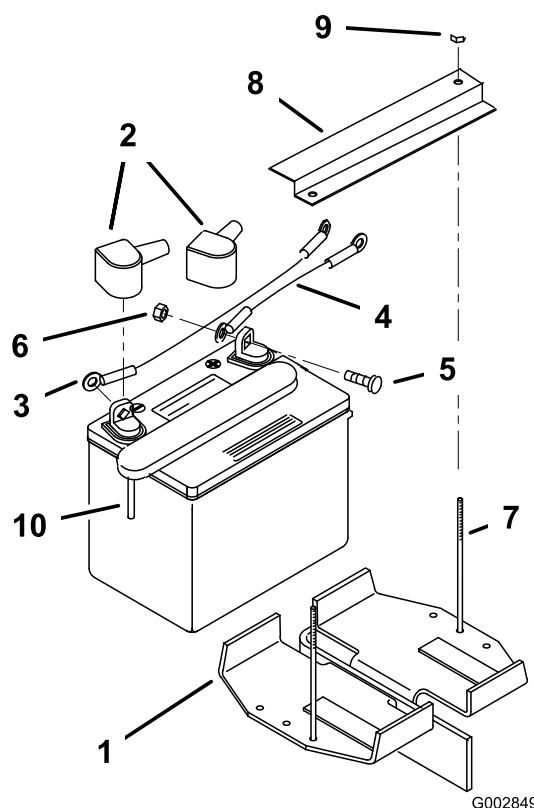

Figure 8
4. Position battery onto the holder with the terminal posts away from the engine (Figure 8).
7. Mount battery to holder with 2 support rods, a battery clamp and 2 locknuts (1/4 inch). Position the support rods in the mounting holes (Figure 8). Tighten the locknuts so the battery is held securely in position and will not slide. Do not overtighten.